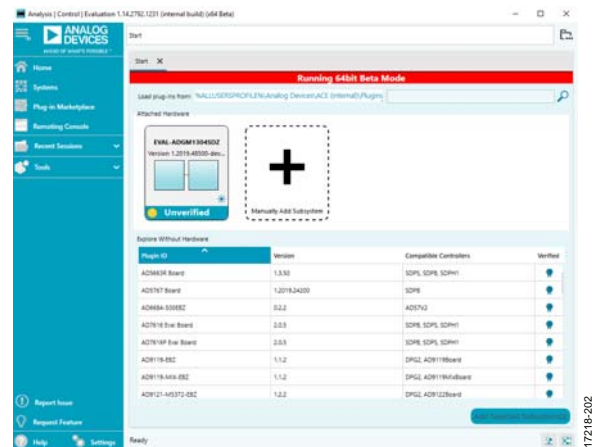

Figure 2 EVAL-ADGM1304SDZ Plug-In Startup Window
6. Run the ACE software. The EVAL-ADGM1304SDZ board plug-ins appear in the attached hardware section of the **Start** tab (see Figure 2)